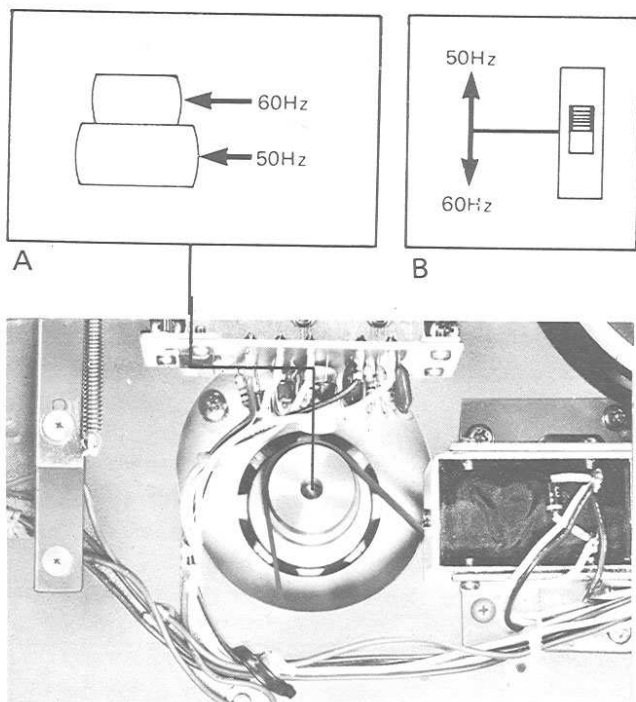

Fig. 3
1. Loosen the screws securing Frequency Switch (60) on the rear panel of the deck, then remove Locking Plate (62) holding the knob of the switch in place. Slide the switch to the correct frequency, insert Locking Plate into the reverse position, then tighten the screws. (see Fig.3 B on page15).
2. When you have completed the frequency switch change, you must re-attach the capstan drive belt behind the front panel. To do this, first remove the Head Cover (29), Tension Arms (3) (26), Pinch Roller (28) and the front panel. This may be done in the following manner:
- c. Remove the dressing screw ④ securing the Pinch Roller by turning it counter-clockwise while applying the pressure on it, then remove the Pinch Roller ⑤ itself from the pinch roller arm.
- d. Remove the four screws ⑥ securing the front panel, then remove the front panel itself.
3. Re-hook the capstan drive belt running between the motor pulley and the flywheel. (Fig. 3) To change from 60Hz to 50Hz, use a finger to transfer from the small-diameter pulley to the large-diameter one. To change from 50Hz to 60Hz, move the belt from the large-diameter pulley to the small-diameter one.